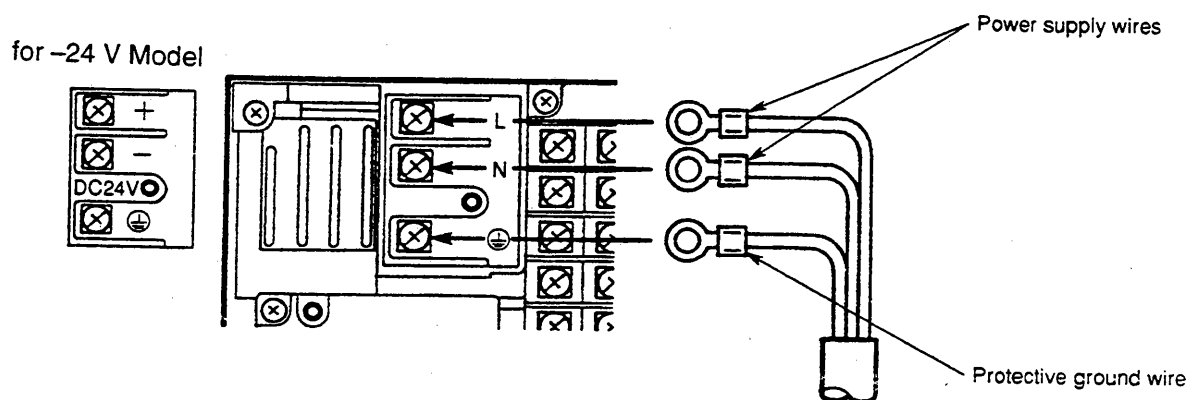

Figure 1-11. Power Supply Wiring
- 2 Connect the power supply wires and the protective ground wire to the power terminals and the ground terminals, as shown in Figure 1-11.